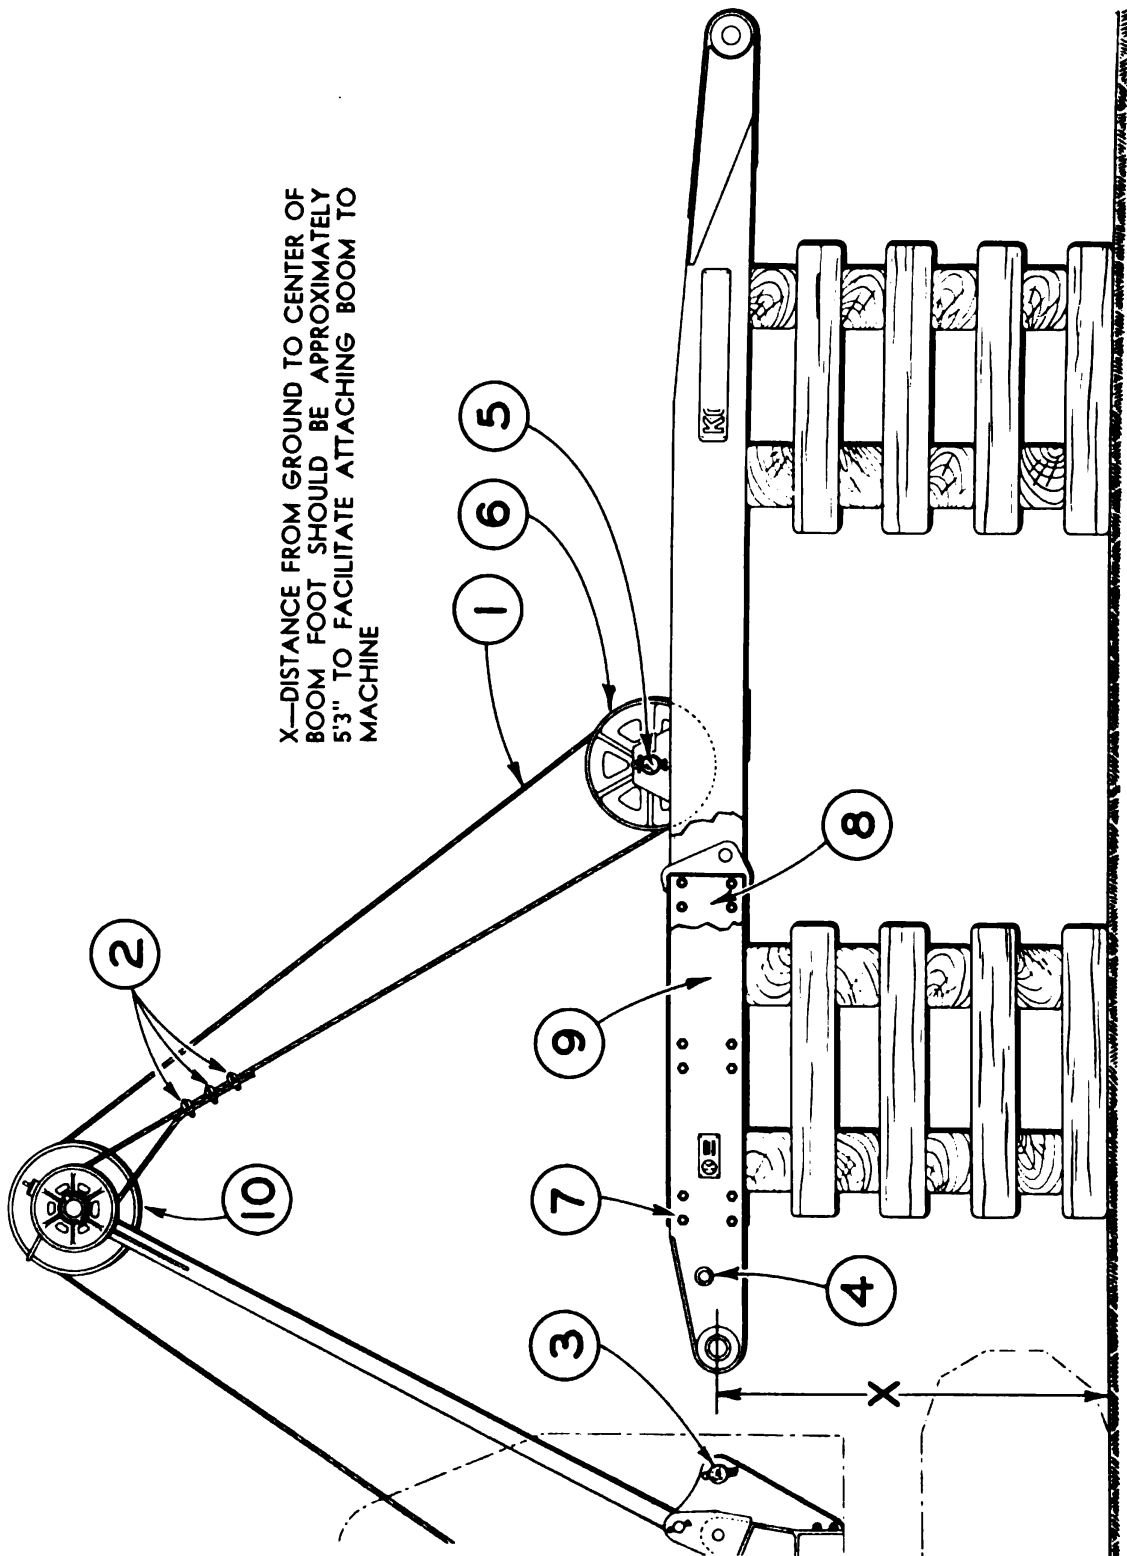

Figure 164
sheaves (3) and (4). Close and pull cotter from pin (5) and remove pin which releases sheave (6). Take out sheave. Remove guard (7) by taking off nuts. Unscrew set screws in set collars (8) until collars are loose on shaft (9). Close and pull cotters in shaft (9) and remove shaft which releases sheave (4) and set collars (8) for removal. Replace sheave (4) after having placed cable (1) as shown in Figure 164, in sheave grooves and take up slack in cable by winding it on drum with power. (After removal of dipper arm, boom can be raised and lowered with cable and can be safely used as a crane for the handling of dipper or dipper arm. Do not use as crane for any other purpose.) Bend down lock plates (10) and remove nuts (11). Using a short bar as a driver, place one end against the shaft (12) at the end opposite the shaft key and drive out shaft (12) with sledge hammer. Hoist boom and swing clear of dipper arm.